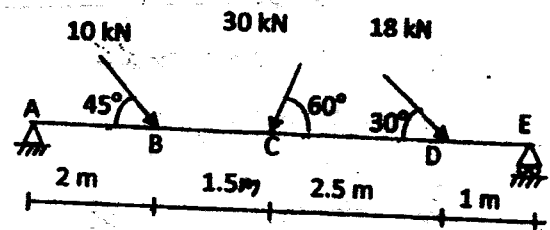

Figure 4
- Q-2 a State Varignon's theorem. (02)
- b Find magnitude, direction and location of resultant of the forces shown in Figure 4. (06)